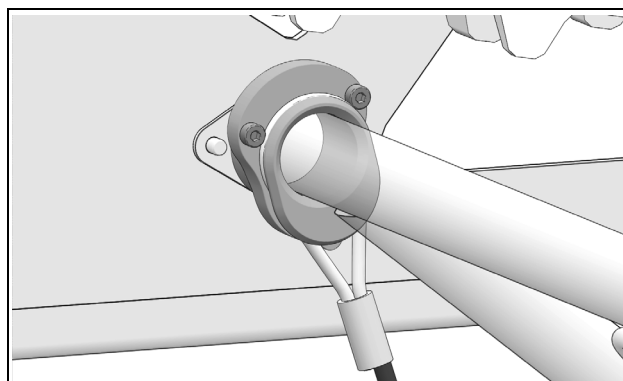

Figure 18
- **Long position:** hard-packed snow conditions. Figure 18.